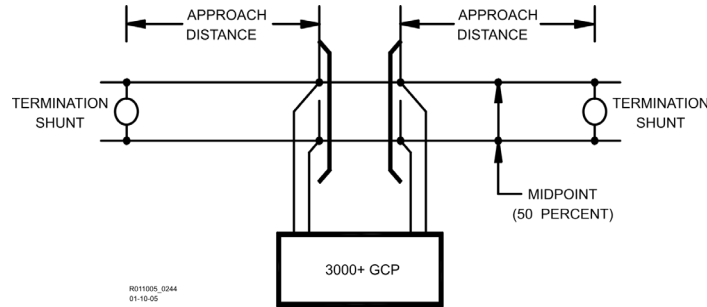

Figure 7 Midpoint Location
Step 3	Place a hardwire test shunt across the track at location A (refer to Figure 7).
Step 6	<p>Accurately (within 1%) locate the midpoint of the longest approach and move the hardwire shunt to that point on the rails (see Figure 7).</p>
Step 18	Accurately (within 1%) locate the midpoint of this approach and move the hardwire shunt to that point on the rails (see Figure 7)